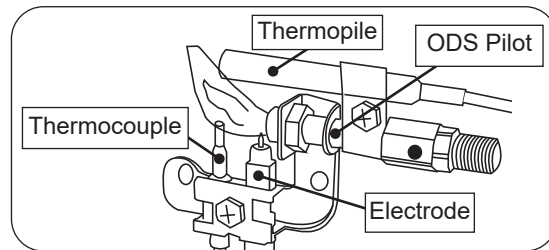

Fig. 22-3 ODS Pilot assembly detail
3. Locate the pilot assembly toward the center of the unit, near the main burner (see Fig. 22-3).
Turn the flame adjustment knob counterclockwise  toward **LO** to decrease the flame height. Turn clockwise  toward **ON** to increase the flame height. See Fig. 22-3.